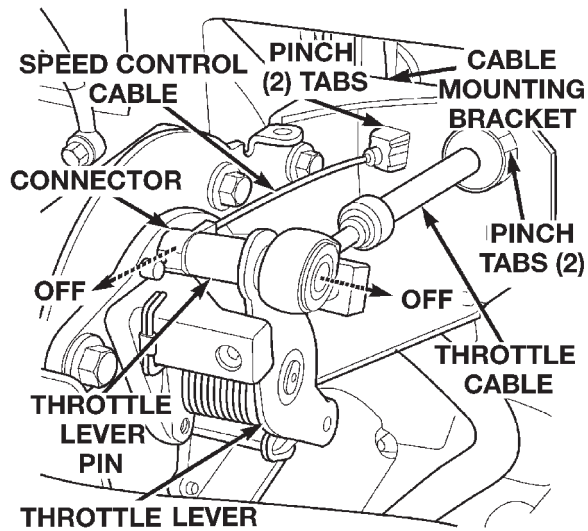

Fig. 12 Servo Cable at Throttle Lever
- (1) Disconnect both negative battery cables at both batteries.
- (2) Remove cable/lever/linkage cover. Refer to Speed Control Servo Removal/Installation.
- (3) Remove (disconnect) servo cable from servo. Refer to Speed Control Servo Removal/Installation.
- (4) Using finger pressure only, disconnect end of servo cable from throttle lever pin by pulling forward on connector while holding lever rearward (Fig. 12). **DO NOT try to pull connector off perpendicular to lever pin. Connector will be broken.**
- (5) Squeeze 2 pinch tabs (Fig. 12) on sides of speed control cable at mounting bracket and push cable rearward out of bracket.
- (6) Remove cable from vehicle.